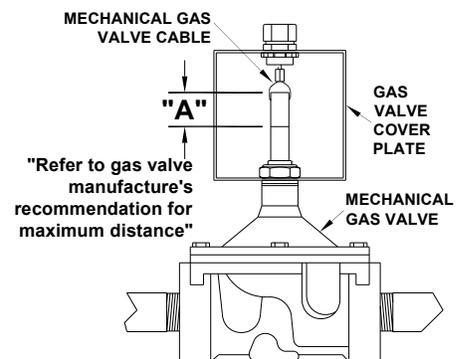

Figure 4-56.
6. Continue to turn spool clockwise until all slack has been removed and the Mechanical Gas Valve stem is fully extended, and the Gas Valve is in its full open position. Remove ratchet or wrench and check the Gas Valve to ensure that it is in its full open position. See **Figure 4-56**.